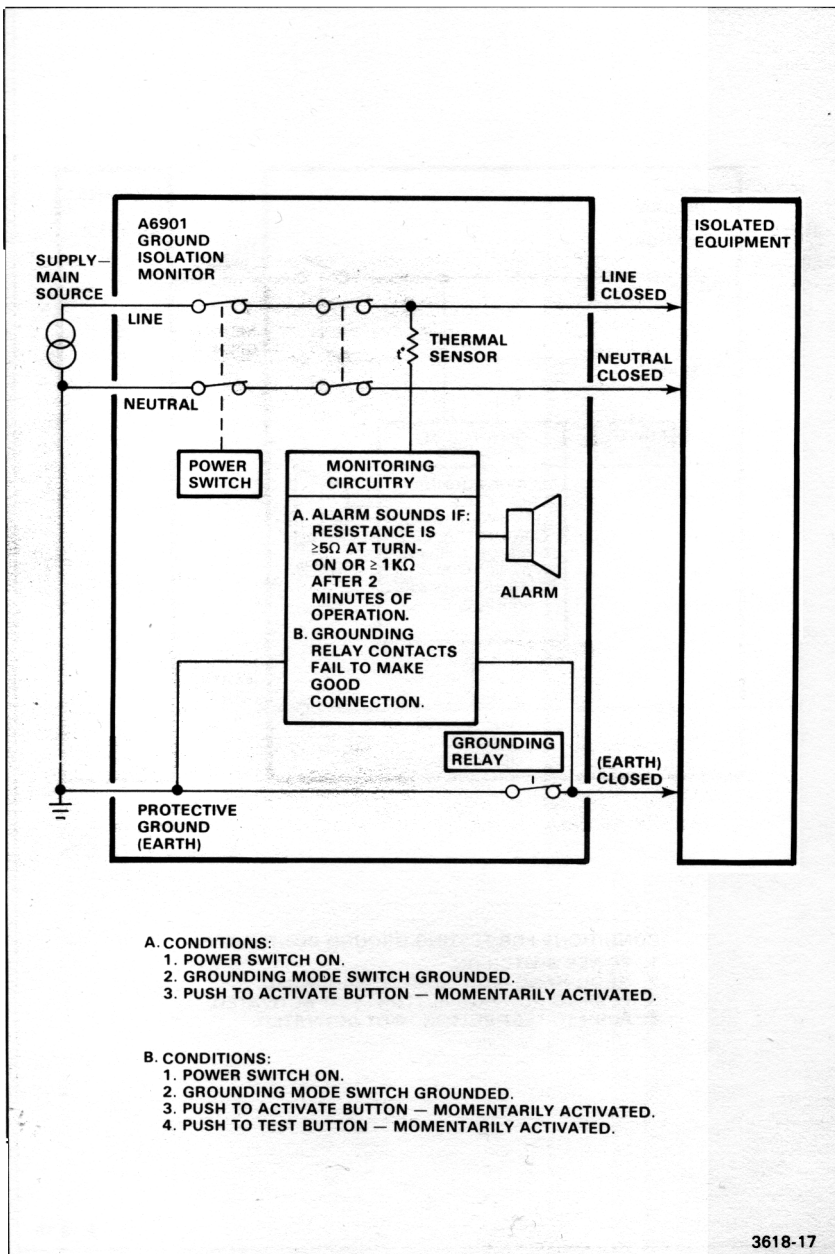

Figure 1-3. The A6901 tests protective ground (earth) conductor impedance between Monitor and supply-main source.
**Monitors Ground Impedance.** When activated, continuously tests the impedance of the protective ground (earth) conductor between the Monitor and the supply-main source. An audible alarm indicates an impedance in the protective ground (earth) conductor. See Figure 1-3.